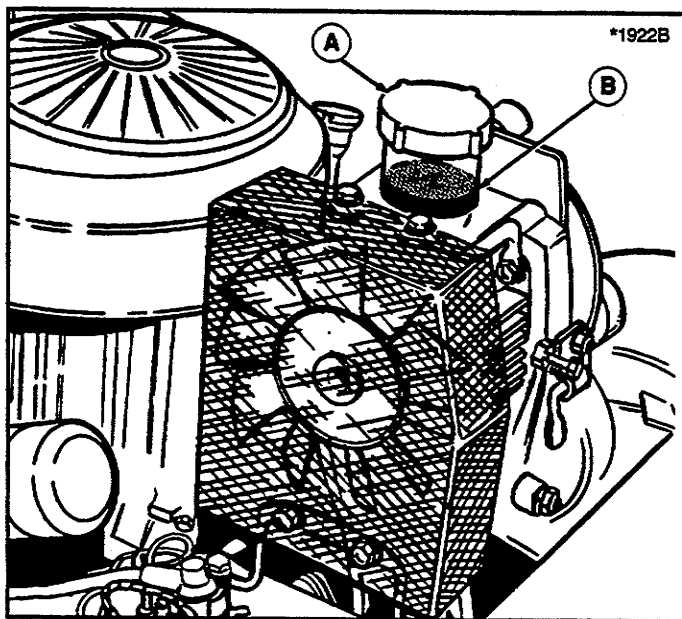

Figure 26. Hydrostatic Reservoir
2. The fluid level is visible in the reservoir (B, figure 26) without removing the cap. The level should be at **FULL COLD** mark. If not, go to step 3.